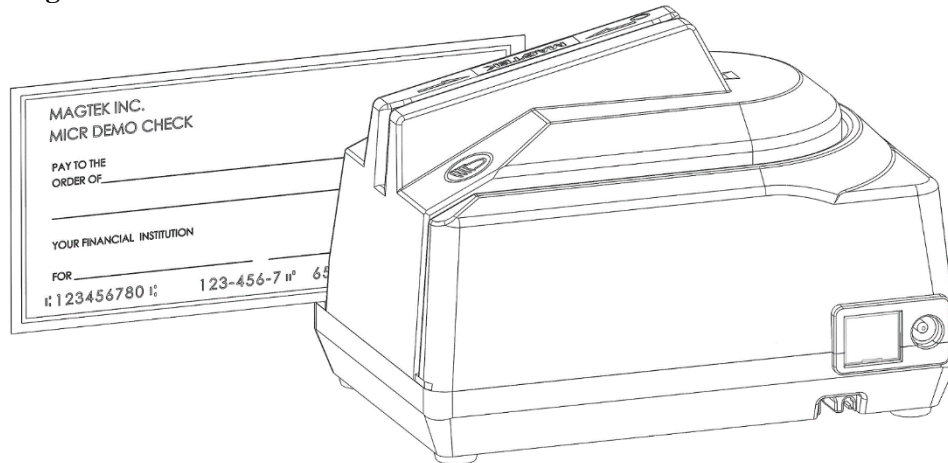

Figure 3-1 - Check Orientation
- 1) Orient the check so the MICR line is down and the printed side faces the center of MICRSafe as shown in **Figure 3-1**.